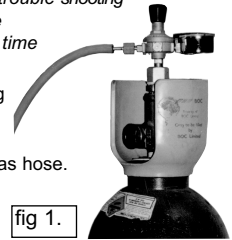

fig 1.
1.2.1. To fit a 13Amp plug proceed as follows: (UK only - see diagram figure 1).
- 3.2.2. Fit the gas regulator on the Bull Nose Adaptor and connect it to the machine gas hose (fig.1).